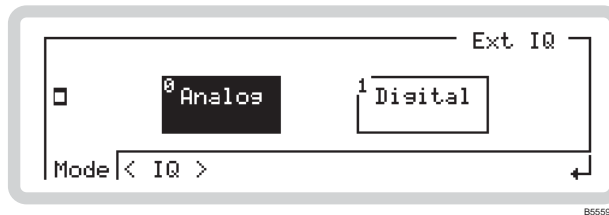

Fig. 3-63 External IQ format
- 2 Press followed by to view the external IQ format menu (Fig. 3-63).